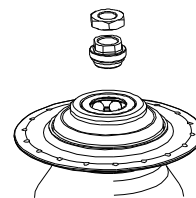

Fig 2
12. Fit left hand cone. Fit cone locknut. (Fig.2)